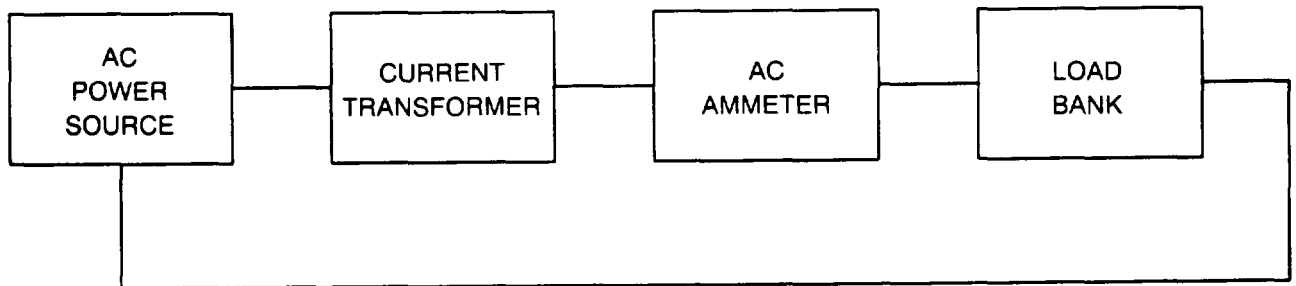

Figure 4-12. Testing Current Transformer
- d. Set up a test circuit using 10 gauge wire as shown in Figure 4-12. Make ten passes with wire through phase A window.